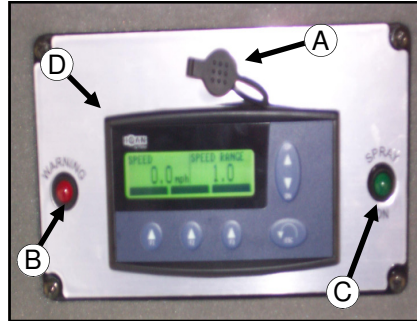

FIG. 28-1
**HAGIE DIAGNOSTIC PORT**– The Hagie diagnostic port (fig. 28-1, item A) is used for diagnostic purposes only. The Hagie Customer Service department can hook into your system to gather information on faults and malfunctions of the machine. From this port, they would also be able to reprogram the machine if it becomes necessary. This port is not for the use of personal computers or personal digital assistants (PDA's).
**WARNING INDICATOR LIGHT**– The warning indicator light (fig. 28-1, item B) will come on if there are any malfunctions or faults in the systems monitored by the MDM. These warnings include, but are not limited to: engine oil pressure, oil level, hydraulic oil level, coolant temperature, battery voltage, and fuel level. An explanation of the fault will appear on the screen. If a fault appears, shut engine off immediately and resolve the fault before continuing. Failure to do so may result in damage to the system with the detected fault.